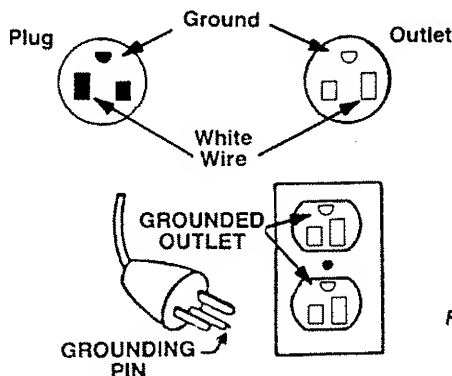

Figure 2
1. The air compressor is designed for 120 volt operation only and is equipped with a cord having a grounding wire with an appropriate grounding plug. The plug must be used with an outlet that has been installed and grounded in accordance with all local codes and ordinances (see figure 2). The outlet must have the same configuration as the plug. **DO NOT USE AN ADAPTER.**